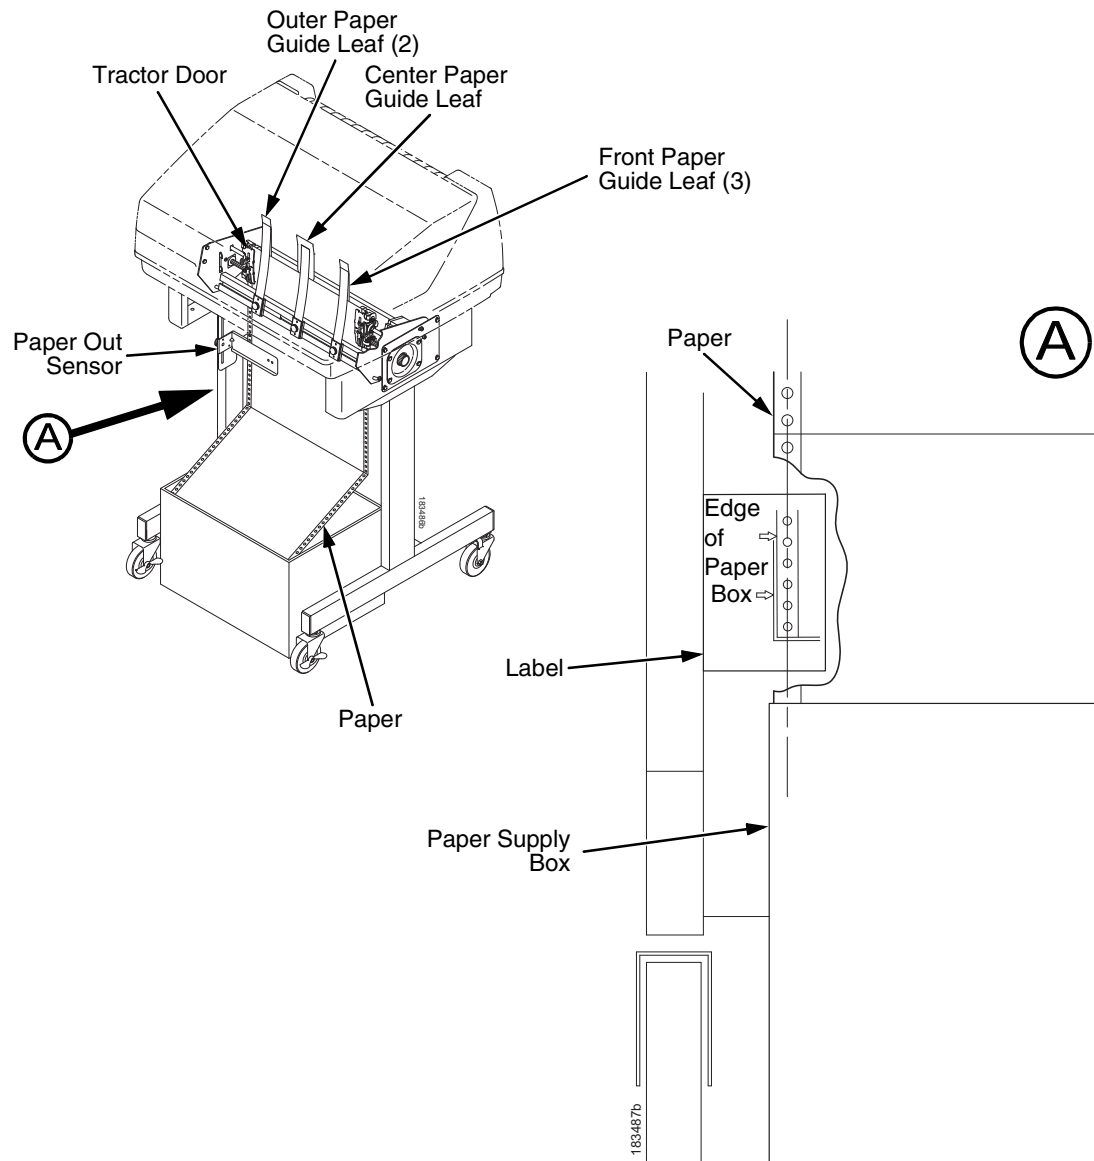
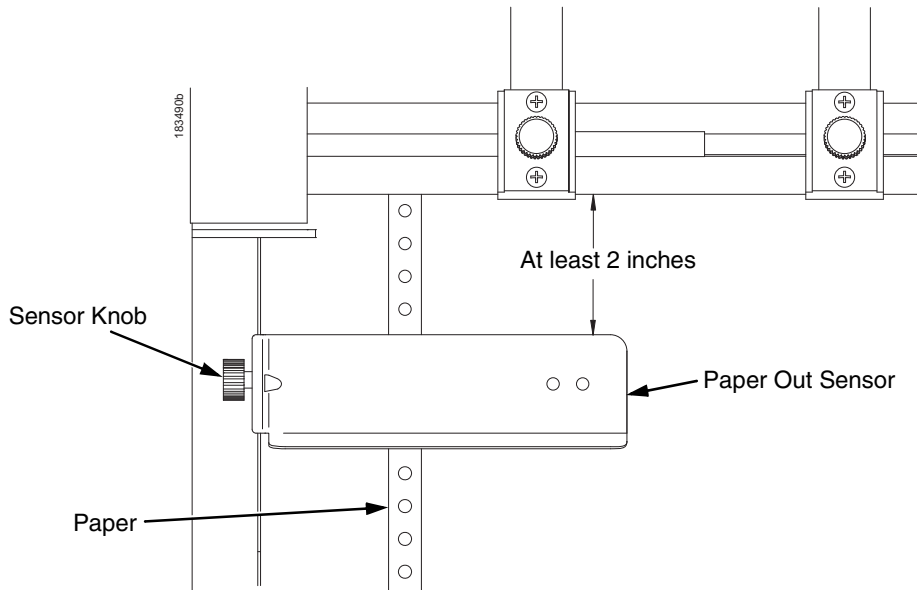

Figure 30. Loading Paper Onto The Printer
Figure 33. The Paper Out Sensor
1. Align the paper supply box with the label on the bottom left side of the modesty panel. (See Figure 30 on page 180.)
The paper out sensor indicates when the printer runs out of paper. (The sensor does not work with black backed forms.) Unlike the standard pedestal printer, the ZT printer requires you to load the paper through the paper out sensor slot (Figure 30 and Figure 33). Correct positioning of the paper out sensor ensures that the last form the printer prints will be properly presented to the tear bar. To position the paper out sensor, do the following: